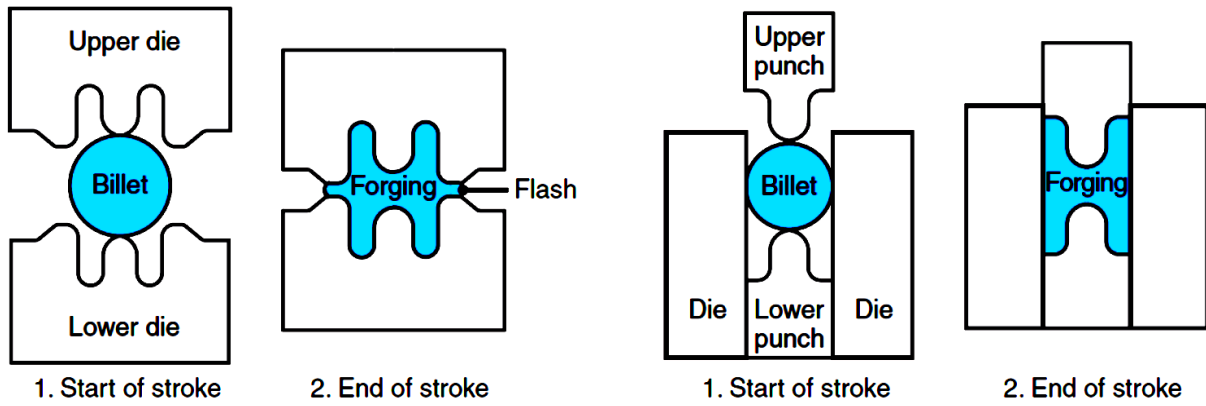

Figure 3: Open die forging and closed die forging
- a) By referring to figure 3 below, differentiate between open die forging and closed die forging.